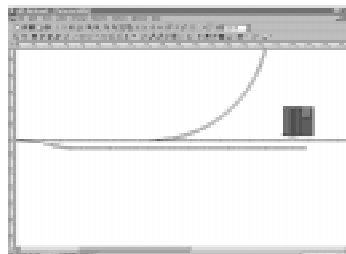
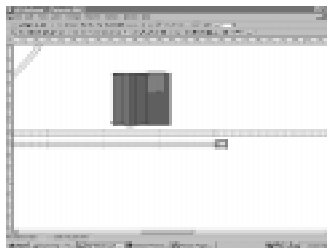

Fig. 34
Fig. 35
We will now need to close up the gap in the track between the parallel section and the turnout. Use the Connect Using Spline tool to accomplish this. When completed, you should end up with the equivalent of figure 34. The last thing we need to do to finish the layout is to add a bumper to the parallel track we just created. Click on the Get Object From Library button and open the Track_Bumpers library. Select any HO bumper and then click the Add to Plan button. With the bumper selected, go to the Arrange menu and select Rotate Right (90). Snap the rotated bumper to the end of the parallel track (Fig. 35) to complete the sample layout.